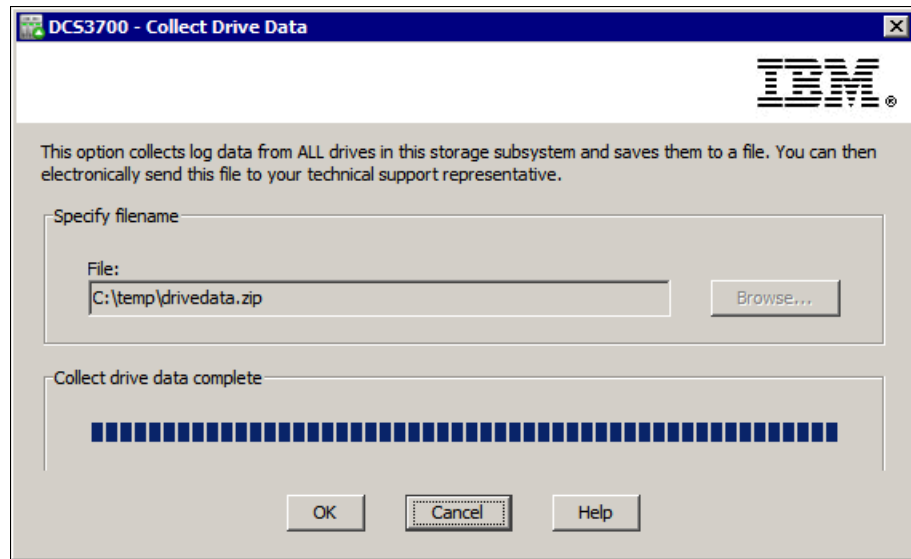

Figure 13-19 Collect drive data complete
2. Click **Browse** to specify the location and file name of the compressed file where you save the drive diagnostic data. Then, click **Start** to save the file. Figure 13-19 shows the window after the drive diagnostic data is saved.